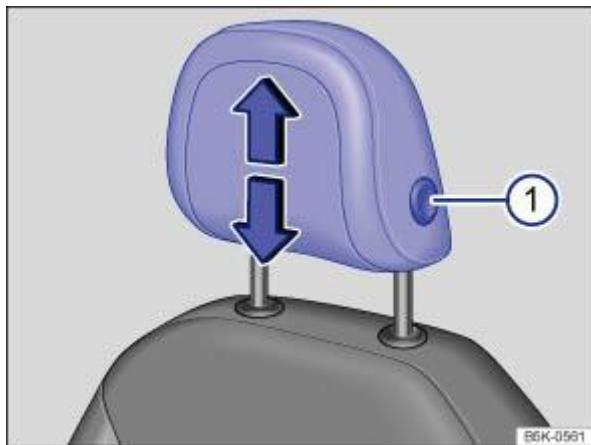
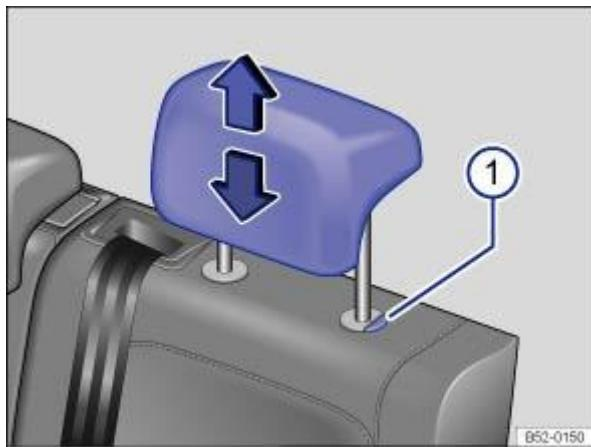

Fig. 72 Front head restraint: adjusting.
Fig. 73 Rear head restraint: adjusting.
Press the button \Rightarrow Fig. 72(1) or \Rightarrow Fig. 73(1) if necessary and slide the head restraint up or down in the direction of the arrow \Rightarrow **!**.